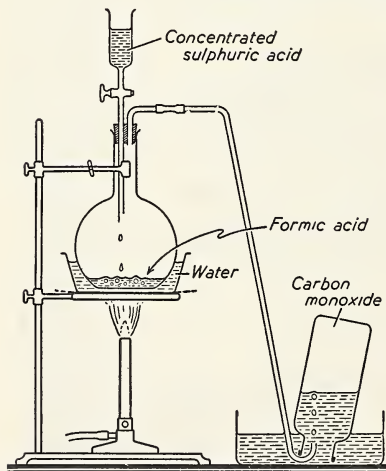

Fig. 60. The laboratory preparation and collection of carbon monoxide.
1. Arrange the apparatus as in Figure 60, and after the formic acid has been warmed slightly, let the concentrated sulphuric acid fall, one drop at a time, into the flask.